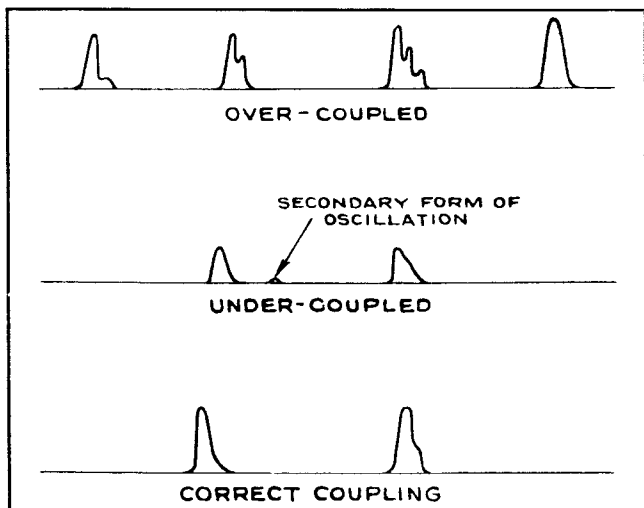
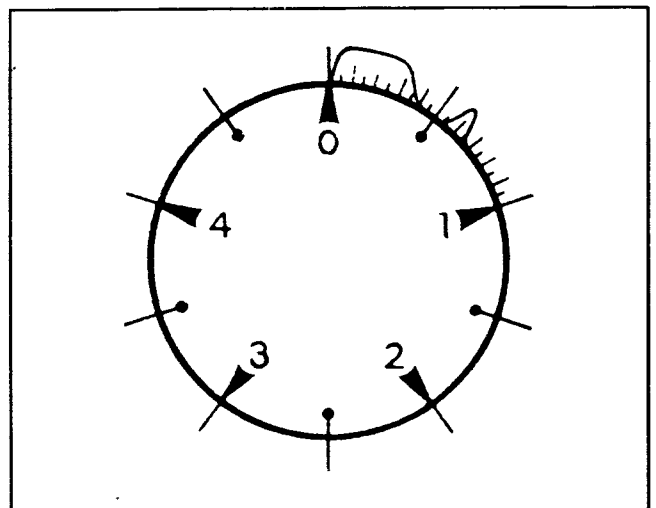

Figure 5-2A. Wave Shapes (Transmitter Pulse)
Figure 5-2B. Indicator (Showing Secondary Pulse)
(2) For maximum transmitter output Test Set TS-23 APN should be used to examine the shape of the pulse. It will be noted that as the physical spacing between loop L129 and tank L127 is decreased, the power output will increase up to a certain point. Beyond this point, the observed pulse shape may acquire two or more distinct peaks, the effect being dependent largely on the setting of adjustment C161 (antenna coupling capacitor). (See fig. 8-12.) If the coupling is loose, that is, if L129 is spaced too far from L127, the loading on the oscillator is insufficient and the secondary form of oscillation (see fig. 5-2B) may appear at 600 feet on the indicator face. If antenna loop L129 is properly positioned, varying of antenna coupling C161 should not introduce additional peaks. Examples of pulse shapes for various adjustments are shown in figure 5-2A. Adjustments made individually on L129, L127 and C161 may cause slight maladjustments on each of the others, hence if realignment of one takes place, it is recommended that the others be rechecked for possible shifts.
(3) All adjusting devices such as sliders, cores, adjustable capacitors and potentiometers should move through their normal range without requiring